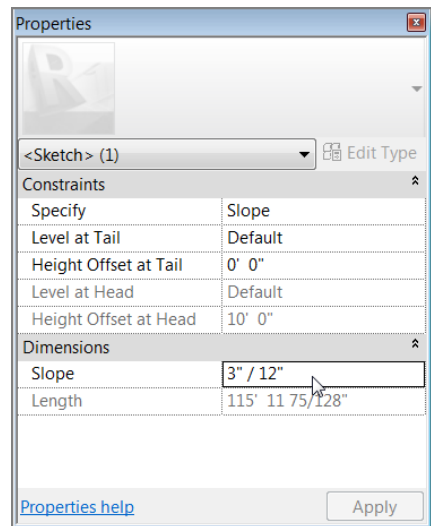

FIGURE 7.42: Changing the Slope Arrow properties
6. Under Dimensions, change Slope to 3" / 12" (250 / 1000mm), as shown in Figure 7.42.